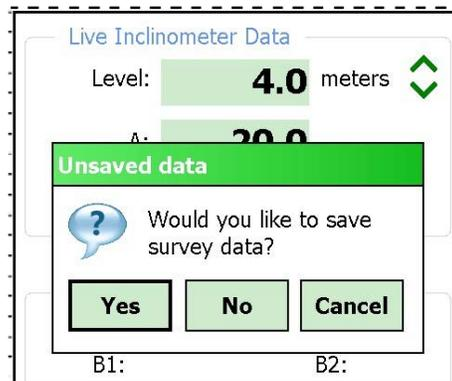
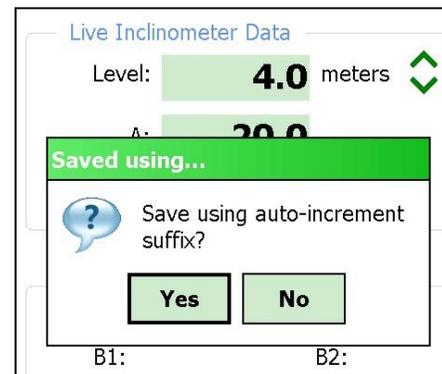

Figure 33 - Unsaved Data Prompt
Figure 34 - Auto Increment Save
- At any point you can scroll the ‘Level’ using the green up and down arrow buttons on the screen and view data stored and checksums (lower half of the screen). When done taking readings, tap “Menu” (lower-left corner of the screen), followed by “Exit Live Readings”. You will be given the option to save the readings to a file (see Figure 33).
- If **Yes** is selected, you then will be given the choice of saving with the auto-increment suffix on the standard filename (see Figure 34). Selecting Yes again causes the save operation to be carried out using a filename of the form: *[Hole_Name][3 digit AutoIncr_Suffix].GKN*
10. When done taking readings, tap the “Menu” item (bottom-left corner of the screen), followed by “Exit Live Readings”. You will be given the option to save the readings to a file (see Figure 33).
11. Even if “No” (see Figure 33) is selected, the readings will be saved to a temporary file and can be restored the next time the Live Readings screen is entered.
12. If “Yes” (see Figure 33) is selected, then another dialog box will be displayed giving the choice of saving with the auto-increment suffix on the standard filename (see Figure 34). Selecting “Yes” again causes the save operation to be carried out using a filename of the form: *[Hole_Name][3 digit AutoIncr_Suffix].GKN*